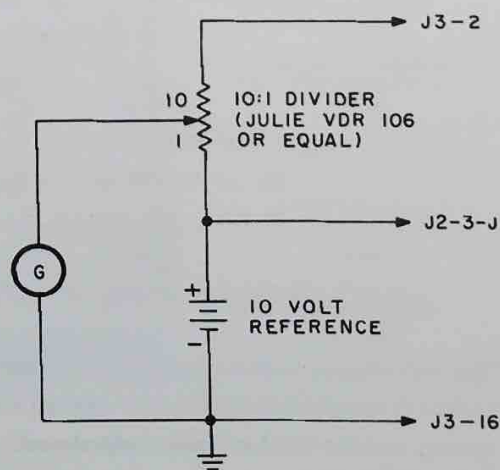

Figure 5.1. Reference Level Adjustment Test Setup
2. Set up the test circuit illustrated in Figure 5.1. (The setting of the voltage divider is 10 to 1.)